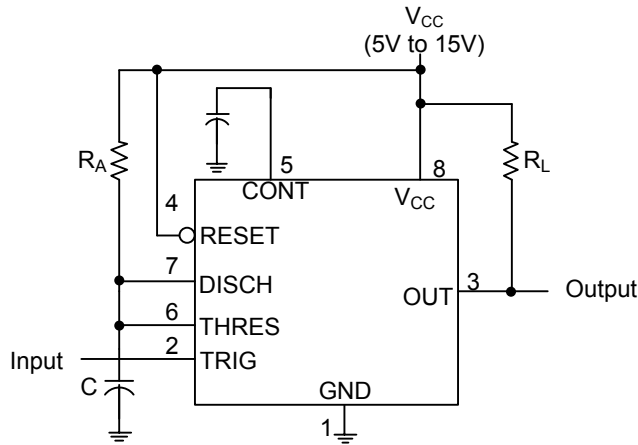

Figure 1. Monostable Operation
11. Values specified are for a device in a monostable circuit similar to Figure 1, with the following component values:  $R_A = 2k\Omega$  to  $100k\Omega$ ,  $C = 0.1\mu F$ .
For monostable operation, any of the '555 timers can be connected as shown in Figure 1. If the output is low, application of a negative-going pulse to the trigger (TRIG) sets the internal flip-flop and drives the output high. Capacitor C is then charged through  $R_A$  until the voltage across the capacitor reaches the threshold voltage of the threshold (THRES) input. If TRIG has returned to a high level, the output of the threshold comparator resets the internal flip-flop, drives the output low, and discharges C.
As shown in Figure 4, adding a second resistor,  $R_B$ , to the circuit of Figure 1 and connecting the trigger input to the threshold input causes the timer to self-trigger and run as a multivibrator. The capacitor  $C$  charges through  $R_A$  and  $R_B$  and then discharges through  $R_B$ . Therefore, the duty cycle is controlled by the values of  $R_A$  and  $R_B$ .
By adjusting the length of the timing cycle, the basic circuit of Figure 1 can be made to operate as a frequency divider. Figure 9 shows a divide-by-three circuit that makes use of the fact that retriggering cannot occur during the timing cycle.